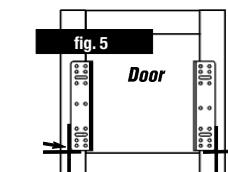

fig. 5
Step 7. Take Dimension C from Step 4 and divide it by two. Measure this distance to the left of the center point on the inside of the cabinet door and make a vertical line. Measure this distance to the right of the center point on the inside of the cabinet door and make another vertical line. (See figure 5)